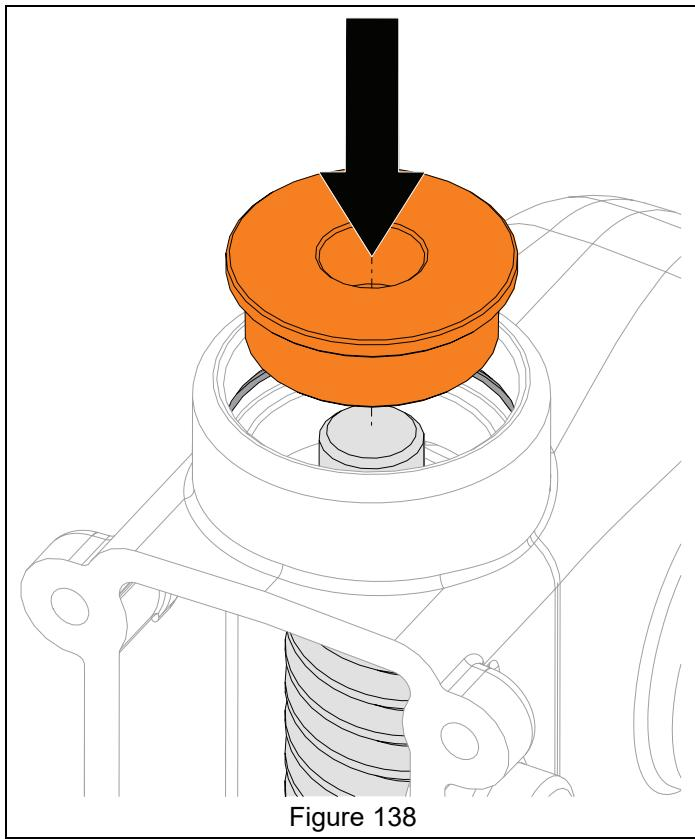

Figure 138
9. Reinstall flange bushing onto impeller shaft end. With a driver, strike bushing until positioned just below retaining ring groove. See Figure 138.